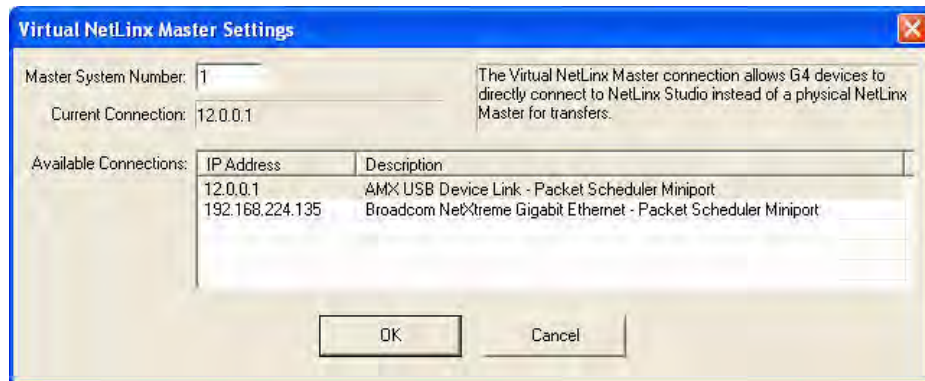

FIG. 91 Virtual NetLinx Master Settings
- Click the **Edit Settings** button on the *Communications Settings* dialog to open the *Virtual NetLinx Master Settings* dialog (FIG. 91).